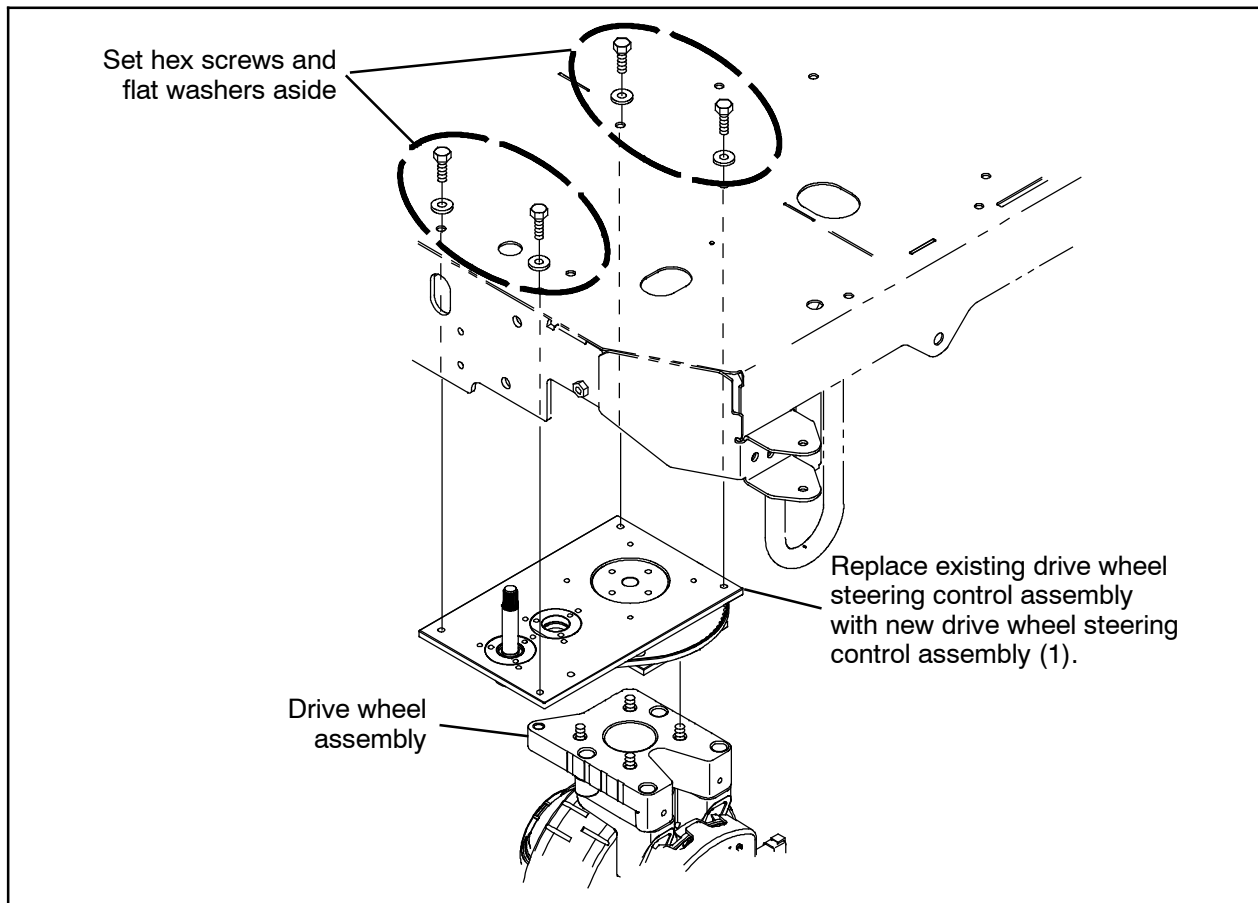

FIG. 9
8. Remove all components necessary to access the hardware securing the drive wheel steering control assembly to the machine. (Fig. 9)
9. Remove the drive wheel steering control assembly from the machine. Set the four hex screws and flat washers aside. Discard the removed drive wheel steering control assembly. (Fig. 9)
10. Use the saved hardware to install the new drive wheel steering control assembly (1) onto the machine. (Fig. 9)